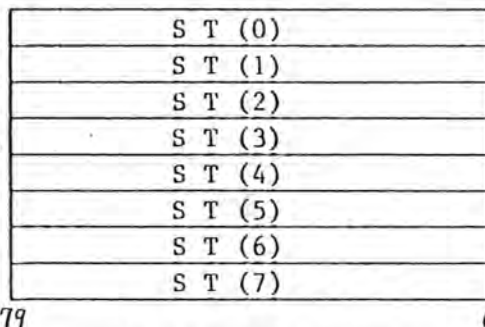

Fig.1 8087 registers
°The 8087 NDP has eight 80-bit registers as shown in Fig.1 and its configuration is as shown in Fig.2. Almost all commands of the 8087 (data transfer, arithmetic operation, comparison) are executed with the register ST (0) or between ST (0) and other register ST (0 - 7) or the memory.